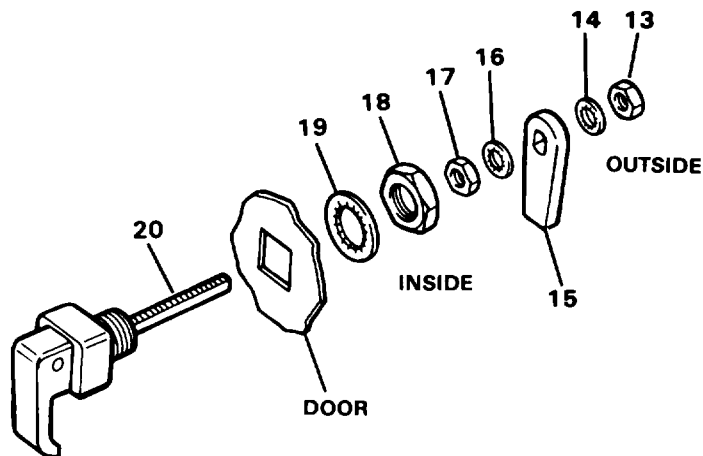

Figure 4-31. Doors, Latches and Gaskets (sheet 2 of 2)
- b. If door latch does not close tight, turn inside jam nut (17) in on shaft (20). This will create room to push pawl (15) and two lockwashers (14 and 16) inward. Then tighten outside jam nut (13). Check if door is closed tight.
- c. If door latch is hard to close or does not close, loosen outside jam nut (13) and slide pawl (15) and two lockwashers (14 and 16) out until door closes correctly. Then tighten inside jam nut (17) until pawl is secured.
- a. Repair consists of replacing damaged parts or lubrication of latches (1, 4, 7 or 10, Figure 4-31, sheet 1) if they become corroded or hard to turn. (Refer to LO 10-4610-232-1 2.)
- c. Lubricate latches by putting silicone lubricant on the shaft (8, Figure 4-31, sheet 2) where it passes through the latch body. Work latch handle up and down to work lubricant into latch body.
- a. Install gaskets (3, 6, 9 and 12, Figure 4-31, sheet 1) if removed as follows: